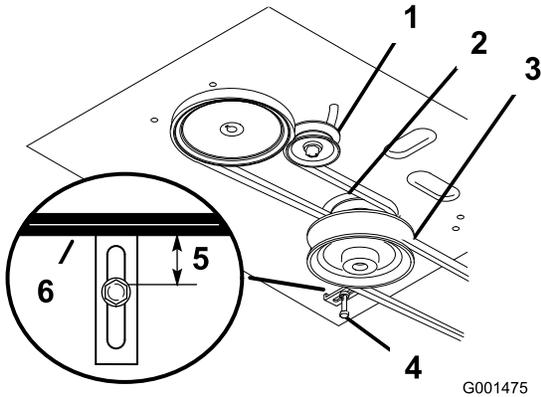

Figure 32
- Remove the mower belt (Figure 32).
- Loosen the pivot bolt enough to slide the idler pulley in the slot and remove the traction belt from the engine and the drive pulleys (Figure 32).
- Install the new drive belt around the engine and the drive pulleys (Figure 32).
- Slide the idler pulley in the engine frame to tension the traction belt (Figure 32).
- Install the mower belt (Figure 32).
- Check the belt guide under the engine frame for the proper adjustment (Figure 32).
13. Check the belt guide under the engine frame for the proper adjustment (Figure 32).